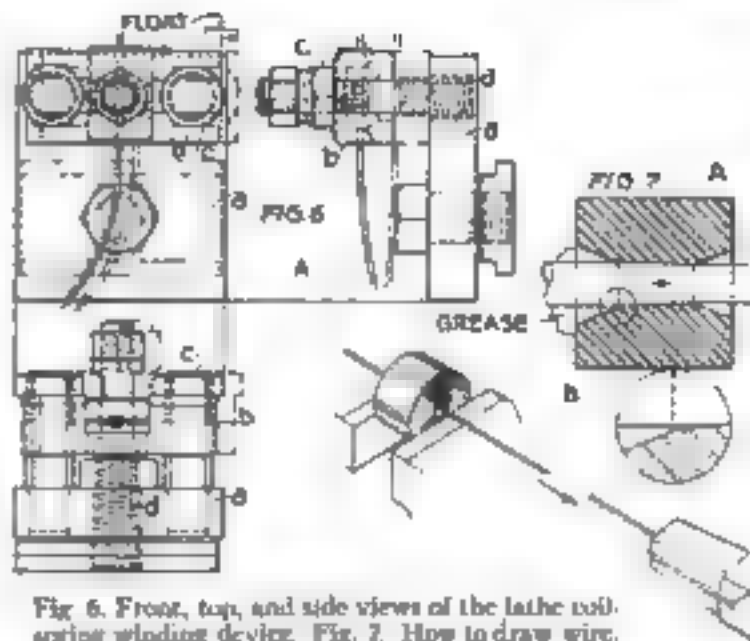

Fig. 6. Front, top, and side views of the lathe tool spring winding device. Fig. 7. How to draw wire.
Complete details of this coil-spring winding device for use in a lathe are given in Fig. 6 on page 94
**S**EVERAL effective hand tools exist for winding wire, and usually these suffice for ordinary shop purposes. Where higher accuracy is required or where many coils must be wound, a more mechanical way of winding sometimes becomes advisable. A lathe tool for this purpose is shown at the top of the page and in Fig. 6 at A. It consists of a base block a, which is mounted on the compound rest, and a wire-feeding float b capable of a limited movement parallel to the lathe spindle axis. Nuts c acting against a spring d allow the float body to be adjusted to various heights to suit the spring diameter being wound. With this device, springs of tight tension can be wound practically without regard to the feed, or coils may be spaced the exact feed distance apart by locking the float against blocks placed underneath it. With spring wire, it is useful to remember that the diameter of the coil spring can be changed with the same arbor by varying the sliding